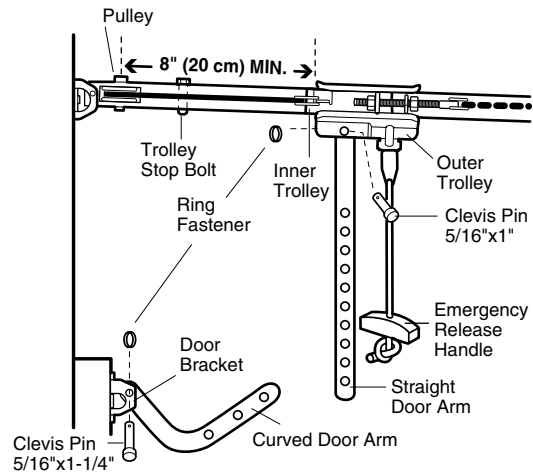

Figure 1
- Make sure garage door is fully closed. Pull the emergency release handle to disconnect the outer trolley from the inner trolley. Slide the outer trolley back (away from the pulley) for 8" (20 cm) minimum as shown in Figures 1, 2 and 3.
#### • Figure 1: